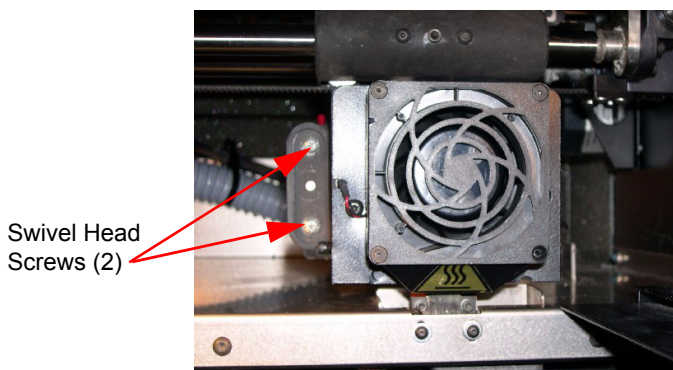

Figure 18: Location of swivel head screws (2)
2. With the Phillips-head screwdriver provided in the Startup Kit, release the two screws securing the head assembly (see Figure 18 - the screws require only ¼ turn to release). Swing open the front half of the head.